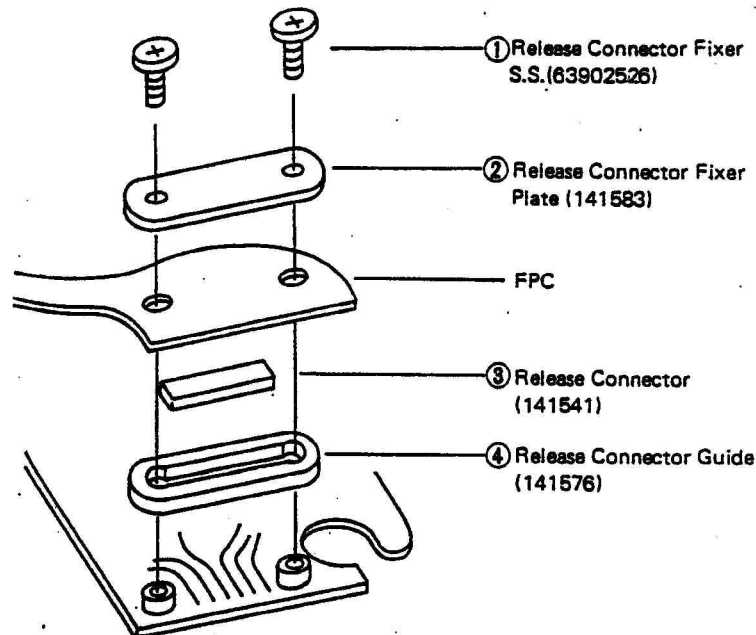

Fig. 57
k) Remove the respective parts ① ~ ④ shown in (fig. 57) in numerical order.